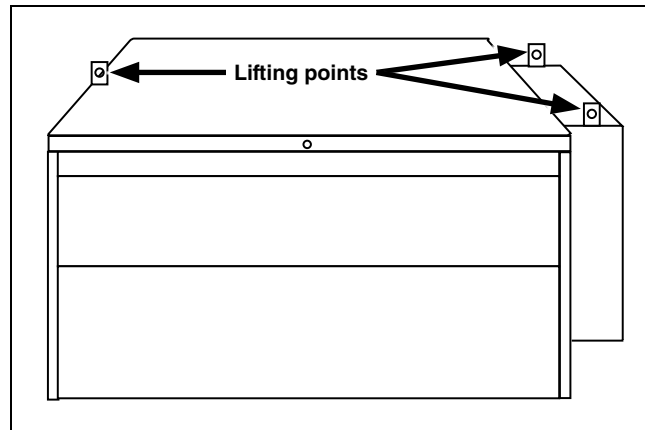
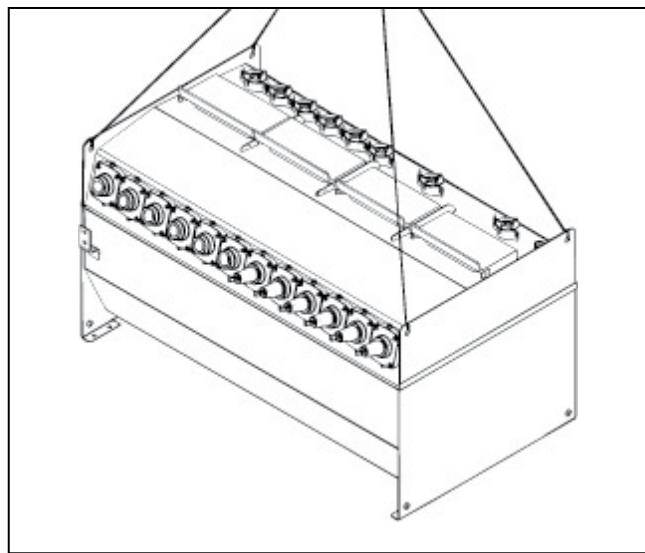
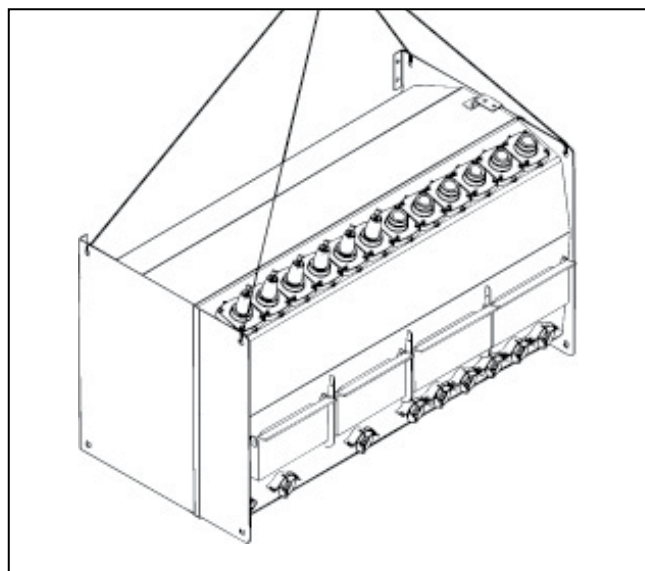
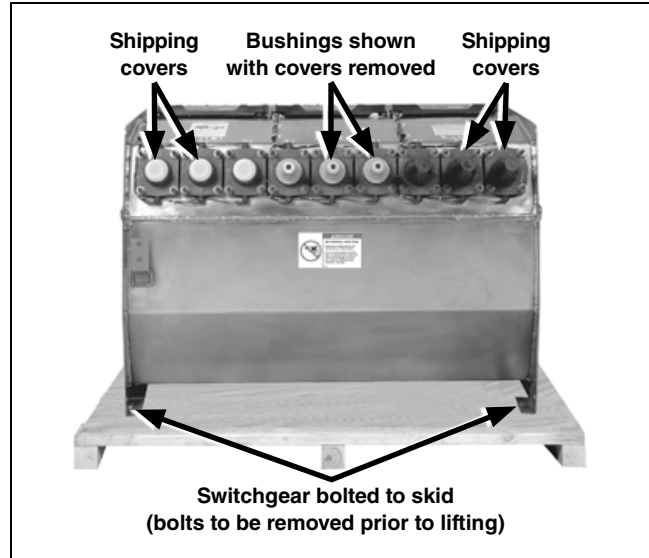

Figure 1. An enclosure for pad-mounted style switchgear.
Figure 2. A properly slung tank for the typical UnderCover style or pad-mounted style.
Figure 3. A properly slung tank for the typical vault-mounted style.
Figure 11. A Vista switchgear tank bolted to a skid for shipment (manual unit shown for illustration purposes).
- STEP 1.** Remove and retain the anchor brackets tie wrapped to the enclosure or tank grounding pad. Use 6-foot (1829-mm) or longer hoist slings of equal length to prevent damage to the enclosure or tank during lifting. (Four-foot (1219-mm) hoist slings are acceptable for two-way and three-way enclosures and tanks.) See Figure 1, Figure 2, and Figure 3 on this page and Figure 4, Figure 5, and Figure 6 on page 9.
- STEP 2.** Unbolt the tank from the skid and lift it above the mounting pad, observing the precautions given under the “Handling” section on page 8. See Figure 11. Use a four-point lifting scheme to properly balance the gear. Figure 2 on page 8.